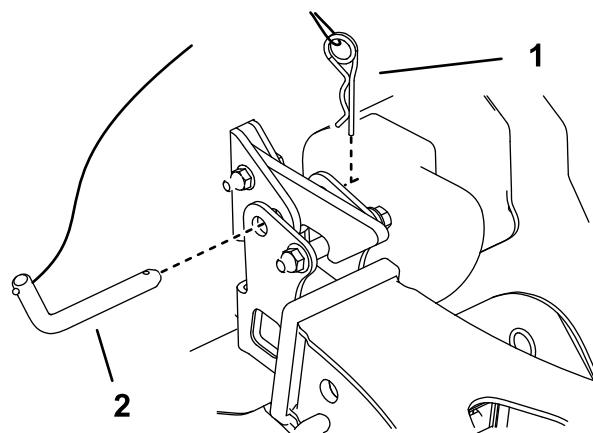

Figure 18
5. Remove the hitch pin and hairpin cotter securing the blower assembly to the hitch receiver (Figure 18).